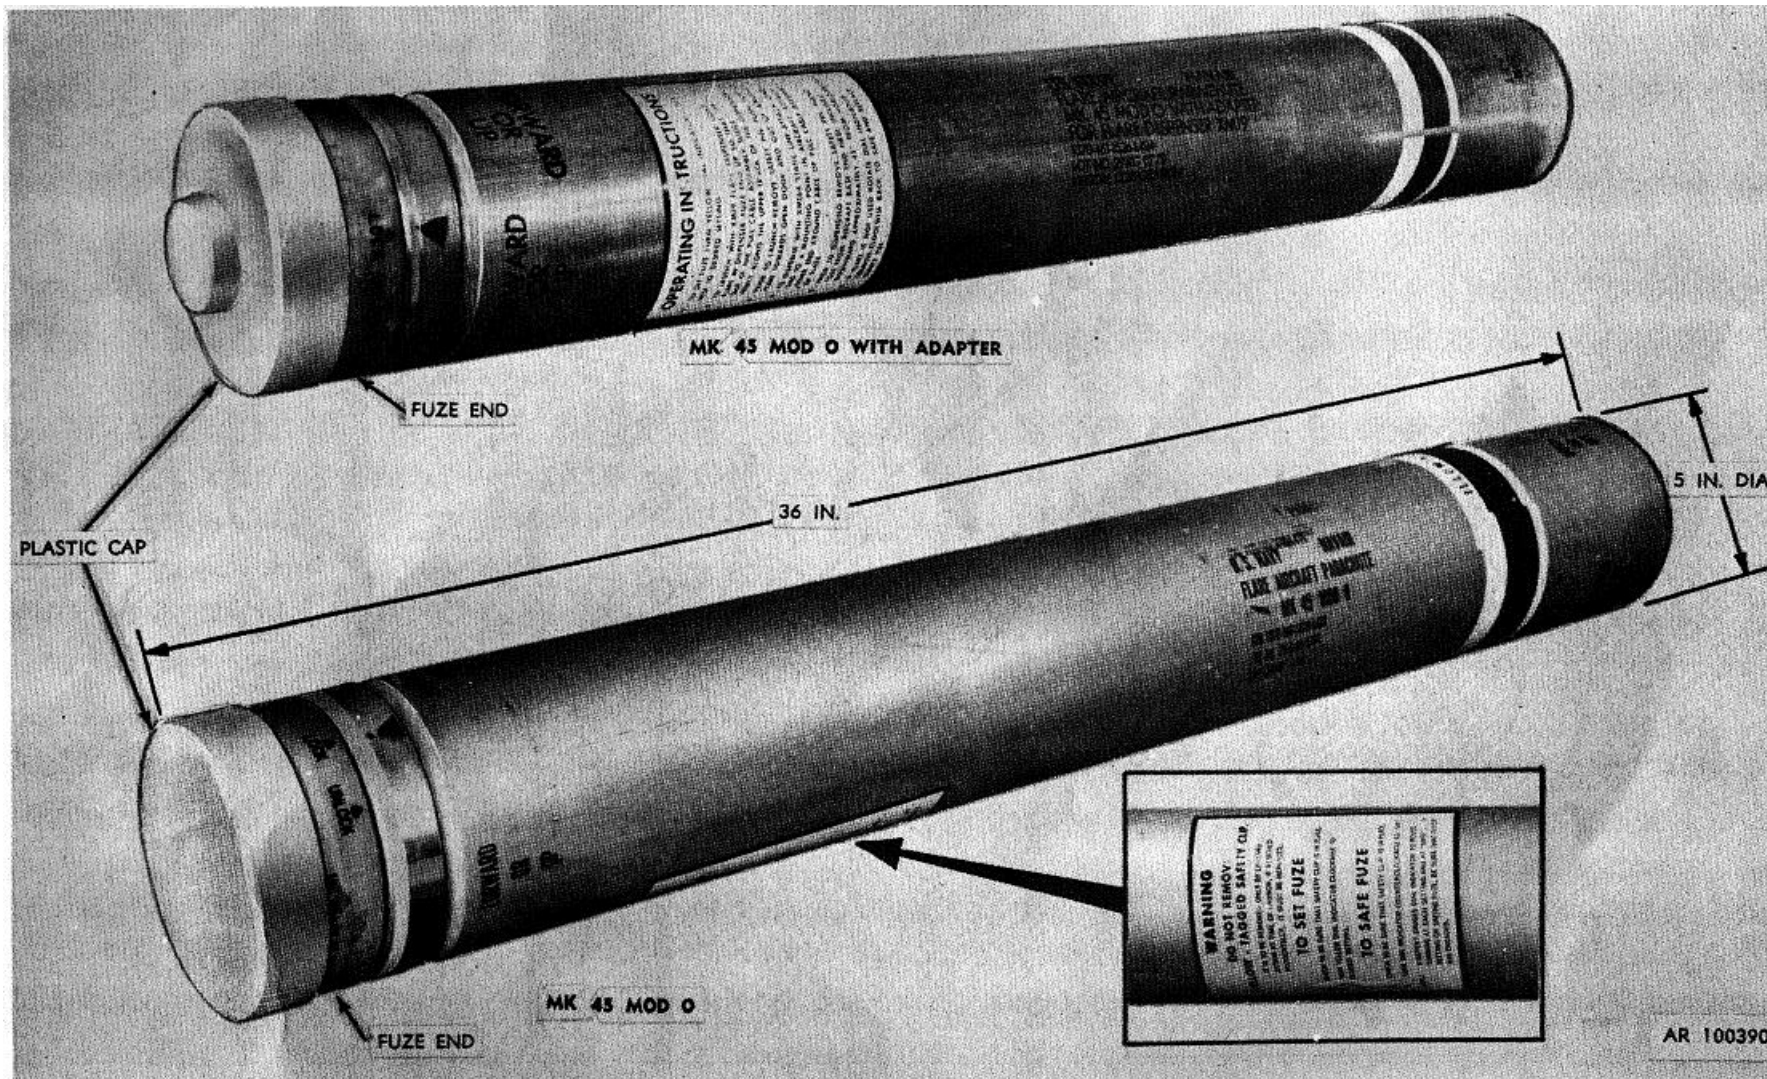

Figure 1-1. Parachute aircraft flares Mk 45 Mod 0 and Mk 45 Mod 0 with adapter.
(1) Parachute aircraft flare MK 45 Mod 0 and Mk 45 Mod 0 with adapter (fig. 1-1) are identical except for minor variations. The basic design consists of a candle assembly, a parachute assembly, and a suspension/ignition assembly in an aluminum case, to which is assembled